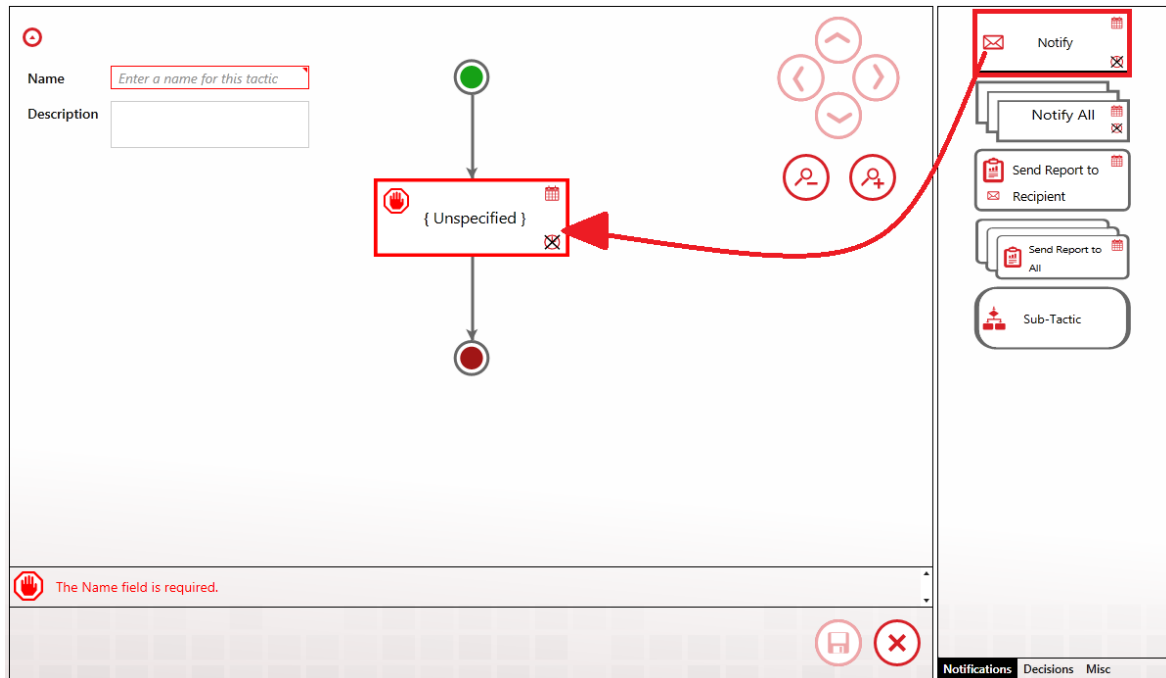

Figure 8: Placing Notification Block in Tactic
Drag and drop tactical instruction blocks from the right-hand pane (1) directly into the tactic design workspace (2). Blocks are chosen from the three categories Notification, Decision, and Miscellaneous. Position the block by dropping it on the link in the place where you want the block to execute (Figure 8).